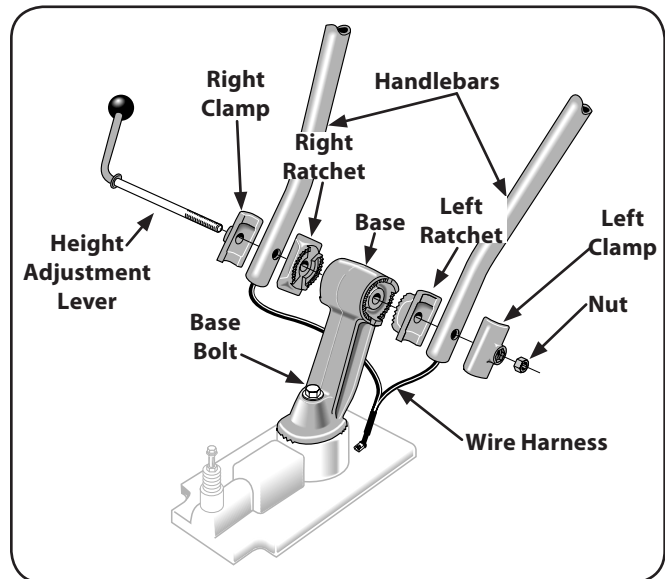

Figure 3-1
1. Disassemble the handlebar assembly. To do this, remove the height adjustment lever by turning the lever in a counterclockwise direction. See Figure 3-1.
2. Place the handlebar ends on either side of the base, with the wire harness toward the rear of the base See Figure 3-1.
3. Install the height adjustment lever through the right-side clamp, handlebar end, ratchet, and base; then out through the left-side ratchet, handlebar end, and clamp. See Figure 3-1. Secure with the nut, but do not fully tighten.
1. Loosen the bolt on the handlebar base and swing the handlebars out to the right side. See Figure 3-1.